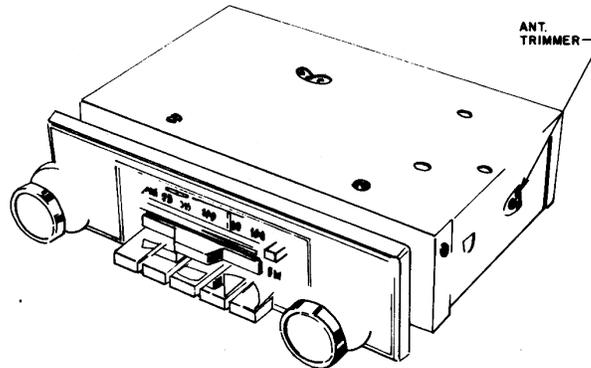

Figure 3-5. Antenna Trimmer Location
2. Adjust the antenna trimmer screw as shown in figure 3-5 so that the noise output becomes maximum.